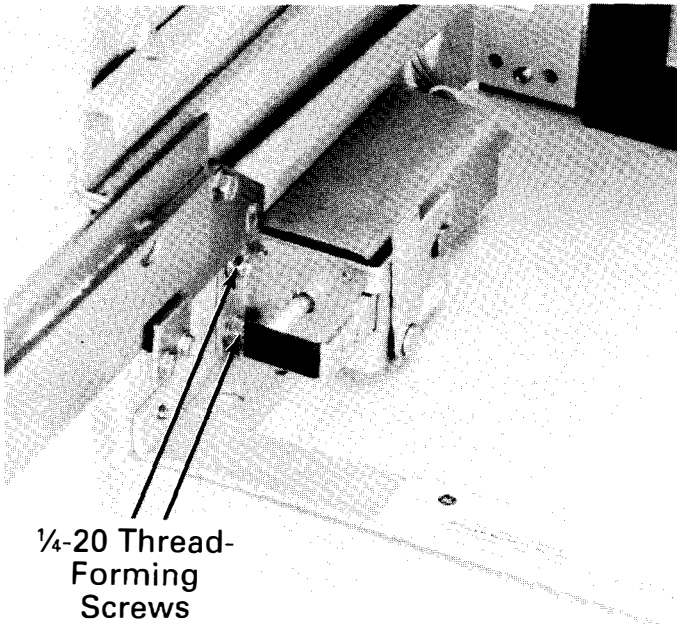

Figure 6. Bypass Switch fully installed.
2. Position the Bypass Switch inside the barrier, as shown in Figure 6, and line up the mounting holes.
3. Fasten the switch with the two 1/4-inch thread-forming screws supplied, as shown in Figure 6, and torque to 80–90 in-lb.
5. Wires must be grouped and tied on each side of the switch, as shown in Figure 6, to prevent the barrier from being pushed up into the path of the retractable rail.